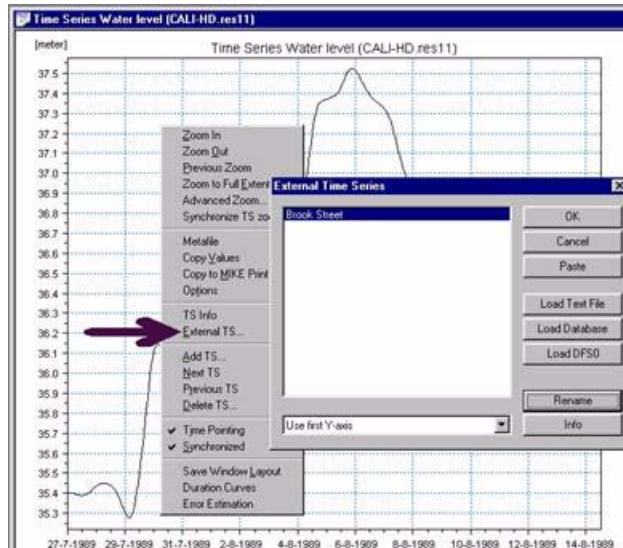

Figure 13.38 Adding an External Time Series via the Local Menu
- 3 Make the TSW active. Select the local menu option "External TS...". In the ETS dialog select the <Paste> button. This opens the dialog for specifying a file name for the time series that we want to paste from the Clipboard. Specify a file name and select <OK> (see Figure 13.38).